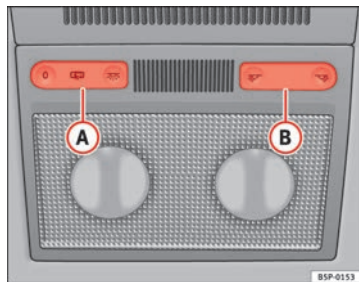

Fig. 79 Interior roof trim:
The switch \Rightarrow fig. 79 (A) is used to select the following positions:
Push the switch to position O \Rightarrow fig. 79.